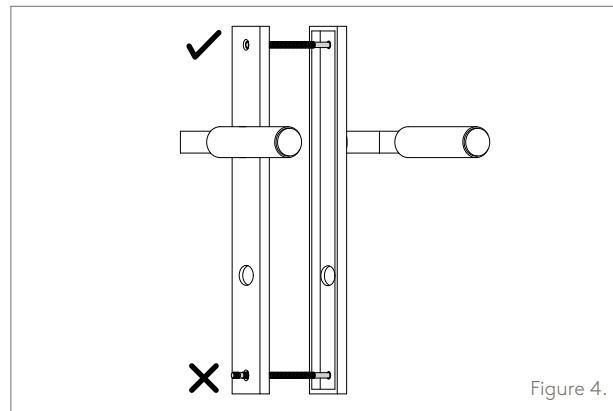

Figure 4.
- 3.2. Ensure to cut so that the screw does not protrude from the opposite rose once installed. (Figure 4.)